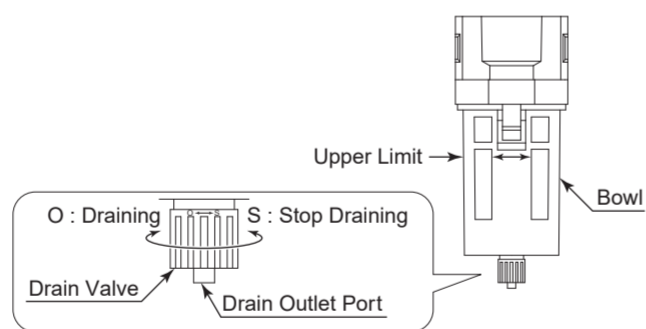

Fig. 13
### ① Draining from Air Filter (Fig. 13)